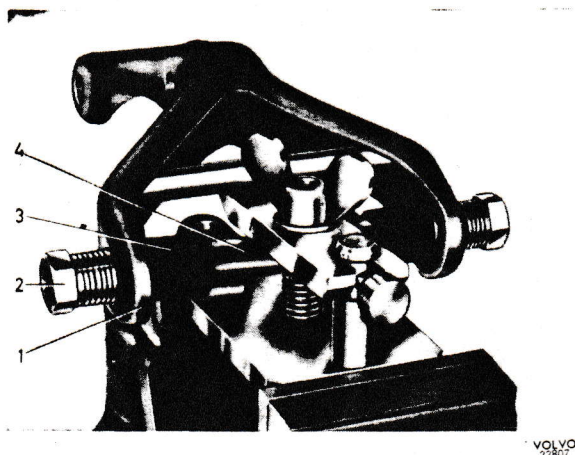

Fig. 21. Fitting pin in upper control arm
1. The pin (16) is removed from the control arm by screwing out the grease nipples (12 and 19) and then the threaded bushes (13 and 18) at the ends of the pin.
4. Place the control arm in the fixture so that the peg on the cap fits into the U-profile on the control arm and the holes in the shoulders of the pin fit on both the guide pins. Move the cap towards the control arm, tighten the wing nut slightly, screw in the stop screw and tighten up the wing nut. See Fig. 21.
member and lower the jack, see Fig. 21. Remove the spring. Screw off the nut (1, Fig. 9) and bolt (8) and lift off the control arm to the front.